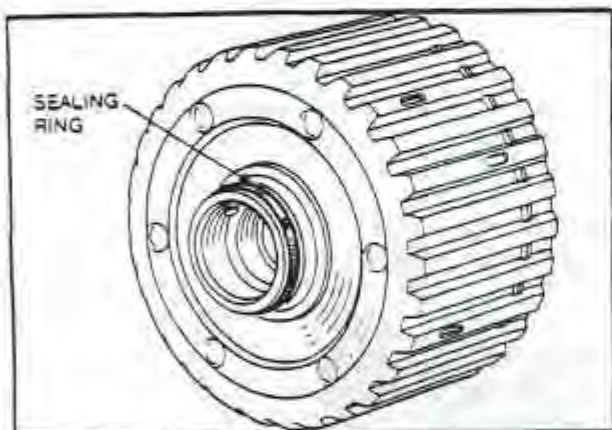

Fig. 59 CLUTCH C-1 HUB SEAL
7. Remove the external sealing ring from the clutch housing by compressing one side of the locking tab to release the lock. Fig. 59
10. Fit the new external sealing ring to the clutch housing hub. Ensure that the ring locks are properly fastened. *Fig. 59*